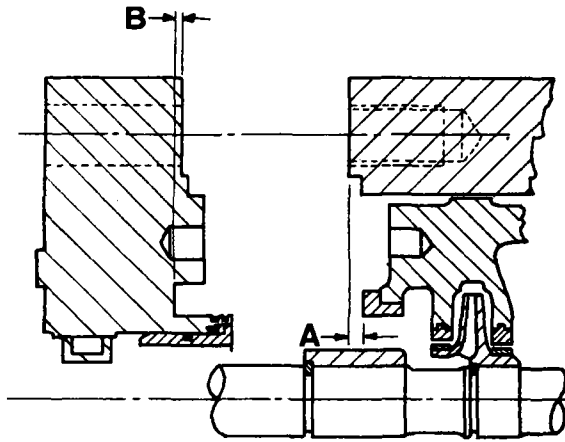

Fig. 35 Dimensions of inner case clearance determination
- a. Place a straight edge across end surface of outer case, just above pump shaft. Measure distance A between straight edge and outermost surface of inner case bushing (Fig. 35).